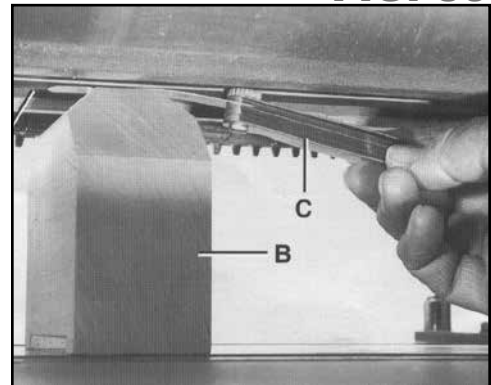

FIG. 30
3. Place the gauge block (B) Fig.30, on the table surface and directly under the cutterhead as illustrated. Using a .040» feeler gauge (C) Fig.30, position on top of the gauge block, raise the table until cutterhead knife (D) touches the feeler gauge when the knife is at its lowest point.